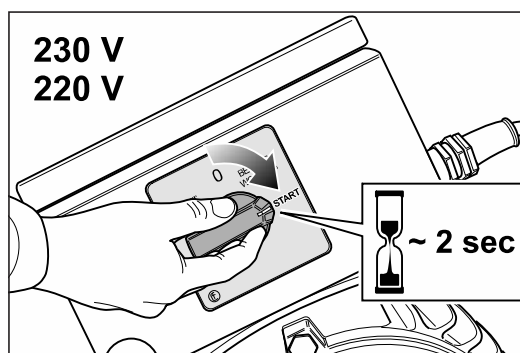

Fig. 24 To switch on the machine turn the switch button at the motor to position -start- and hold the switch button for around 2 seconds in this position.
- 2 To switch on the machine turn the switch button at the motor to position -START- and hold the switch button for around 2 seconds in this position (fig. 24).